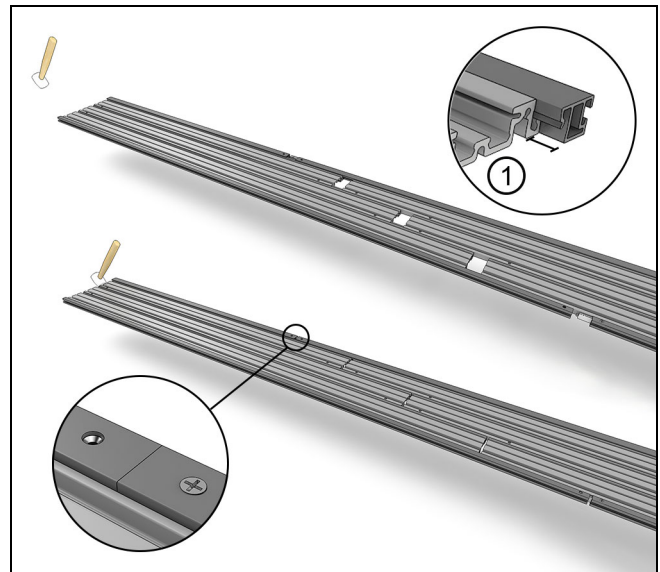

Figure 22
6. Tap the two sections together until the splice joint is tight and the end of the tracks are flush. The sill liners will sit 1/2" (13) beyond the tracks on each side of the sill. See Figure 22.